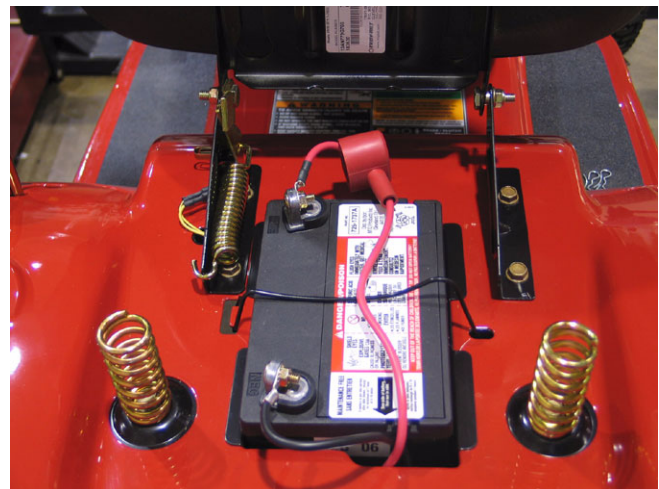

Figure 18
6.2. Remove the battery and battery tray. See Figure 18.